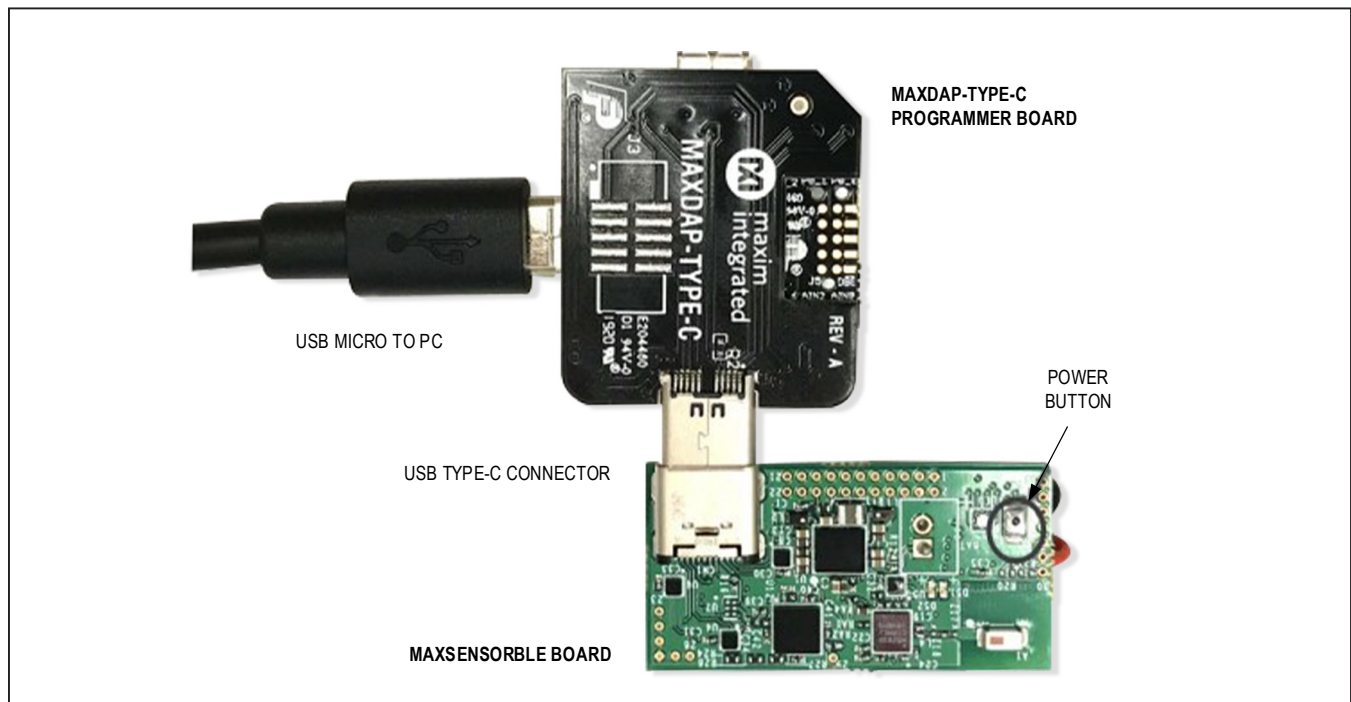

Figure 17. Connections to flash firmware on MAXSENSORBLE\_EVKIT\_B board.
- 1) See Figure 17 for the following step. Power down the MAXSENSORBLE\_EVKIT\_B board. Connect the MAXSENSORBLE\_EVKIT\_B board to the MAXDAP-TYPE-C programmer board. Ensure that the label "MAXDAP-TYPE-C" is on the same side as the top of the MAXSENSORBLE\_EVKIT\_B board, as Type USB-C direction matters. Connect the micro USB-B to USB-A cable to your PC via HDK USB port on the MAXDAP-TYPE-C board. After the cable is connected to your PC, the MAXSENSORBLE\_EVKIT\_B board will power up and have red & yellow status indicator LEDs on. Do not press the power button at this time!